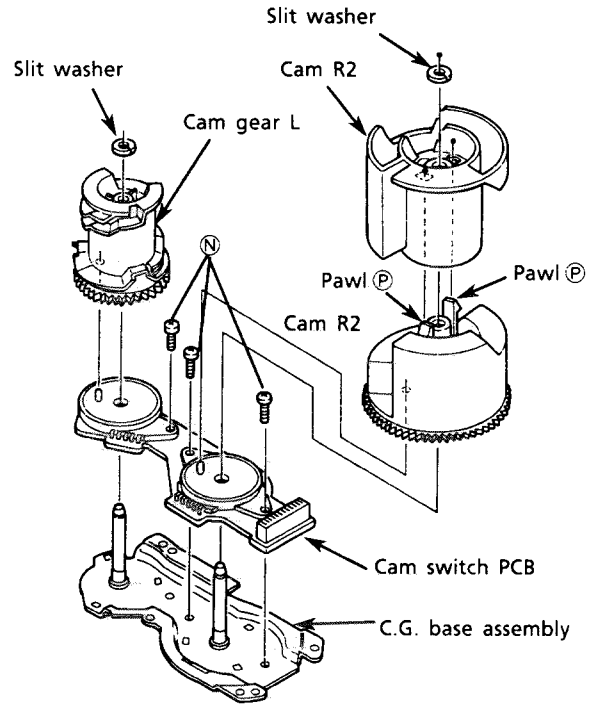

Fig. 40
(See Fig. 40.)
(28) Removal of C.G. base ass'y
Remove 3 screws ⑥ securing the C.G. base ass'y. (See Fig. 40 and 41.)